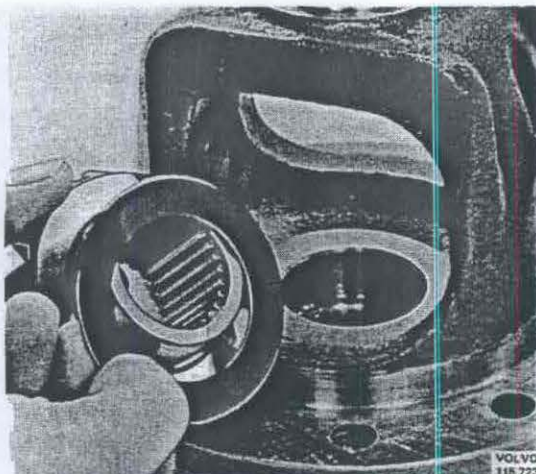

Fig. 46-51. Fitting the thrust washers
2. Place the differential side gears and thrust washers in the housing, see Fig. 46-51.